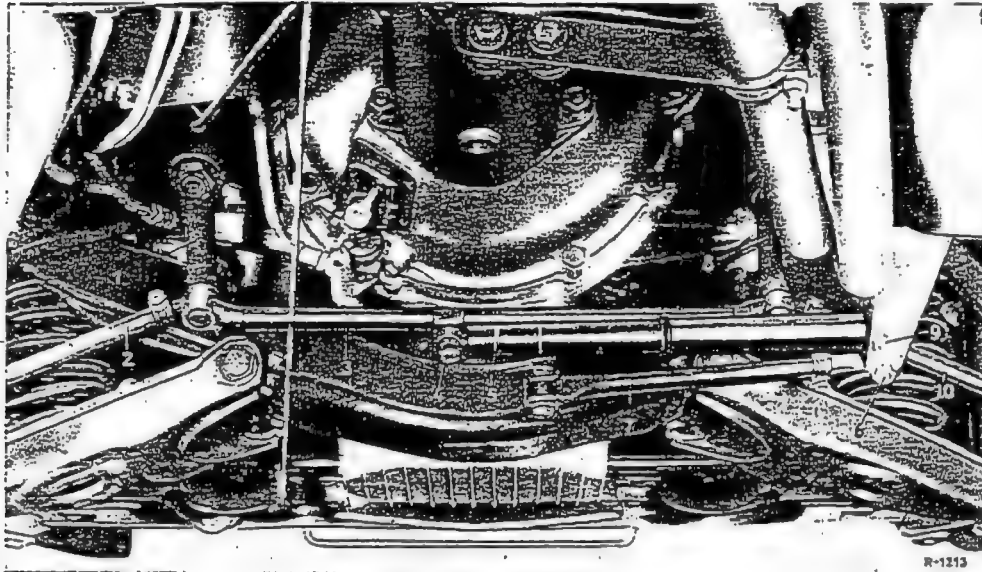

Fig. 46-12/2
1. Disconnect the tie-rod (2) and the center tie-rod (3) from the steering gear arm (1) (Fig. 46-12/2).